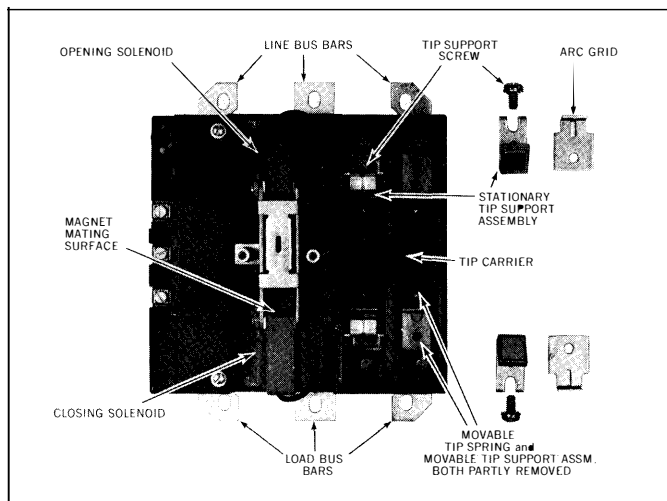

Figure 2. Removal of contacts-CR160MB forms
13. Install new switch mechanism assembly while threading coil lead wires through the base housing as shown in Figure 2. Confirm that return springs are seated into housing recesses.